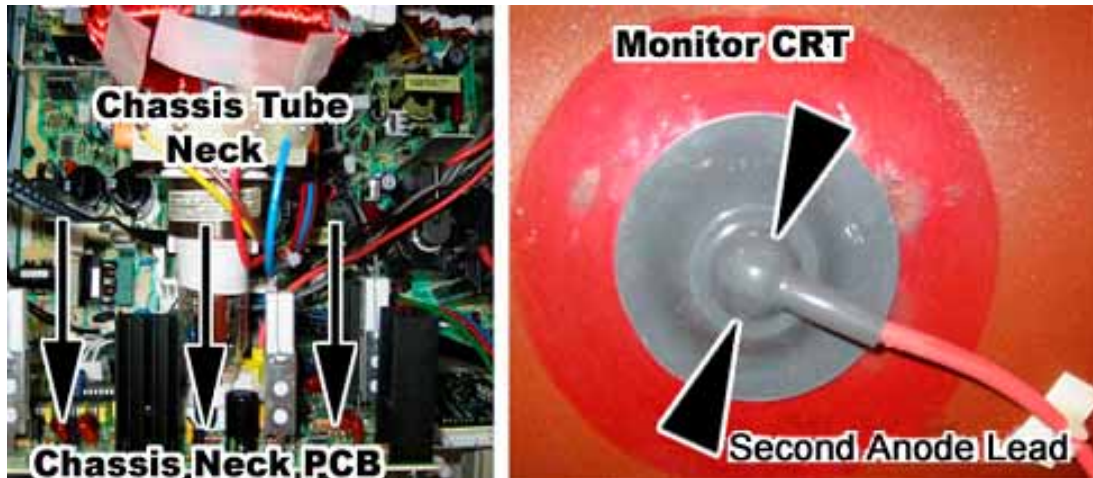

Figure 30. Disconnecting the Chassis Neck PCB and Second Anode Lead
5. Disconnect the second anode lead that connects to the CRT just above the Chassis Tube Neck. Be very careful as the second anode lead can be charged with a VERY HIGH VOLTAGE even when powered OFF. Pinch the gray rubber flange and slightly push in to un-hook the metal prongs that hold the second anode lead to the CRT, shown by the arrows in Figure 30.